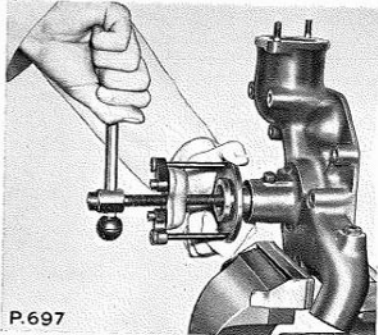

Fig. A.4. Withdrawing the fan mounting flange, using the Churchill Tool 155, in conjunction with the adaptor set R.G.155-6
1. Press the shaft from the fan mounting flange, or alternatively withdraw the flange with the aid of Churchill Tool 155, in conjunction with the Adaptor Set R.G.155-6 (see Fig. A.4).